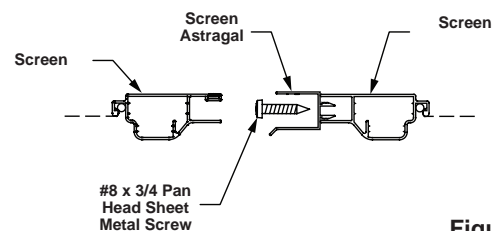

Figure 43
49. Holding the astragal in place on the edge of the screen, drill an 1/8" hole into the interior screen wall. After drilling the first hole, screw the astragal to the screen using a #8 x 3/4" pan head screw to hold it in place while drilling the rest of the holes (Fig. 43).
50. Attach screen stop in the head screen channel at the center of the door using the provided #8 x 3/4" pan head sheet metal screw (Fig. 43).